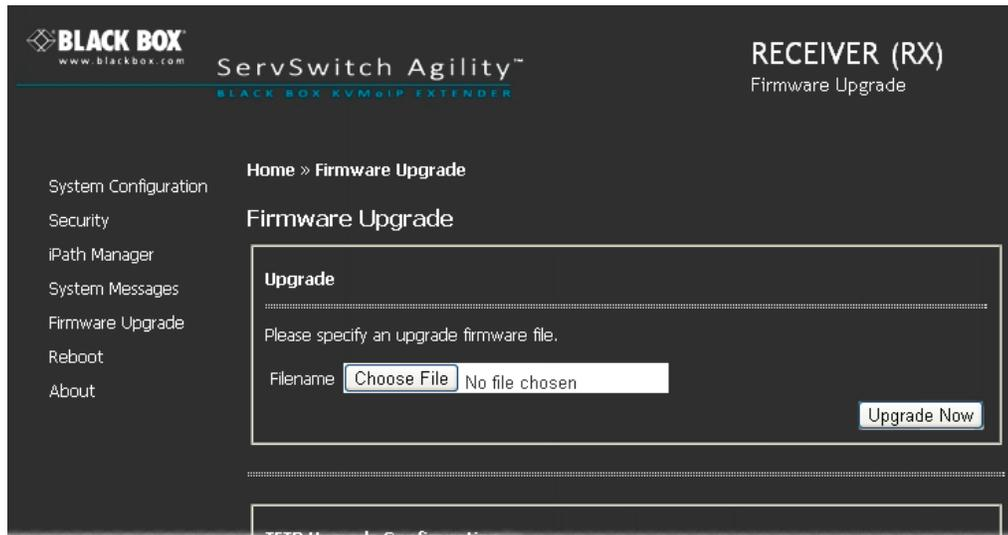

Figure 4-11. Receiver firmware upgrade page.
- 4 Click the Firmware Upgrade link. Within the Firmware Upgrade page, click the Choose File button. In the subsequent file dialog, locate the downloaded upgrade file - check that the file is correct for the unit being upgraded. See Figure 4-11.